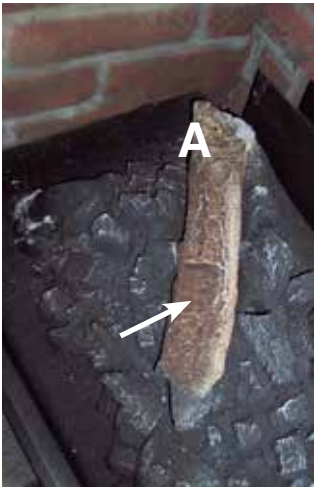

Figure 89: Log A Locator
- 4) Identify locator on Log A as shown in Figure 89.